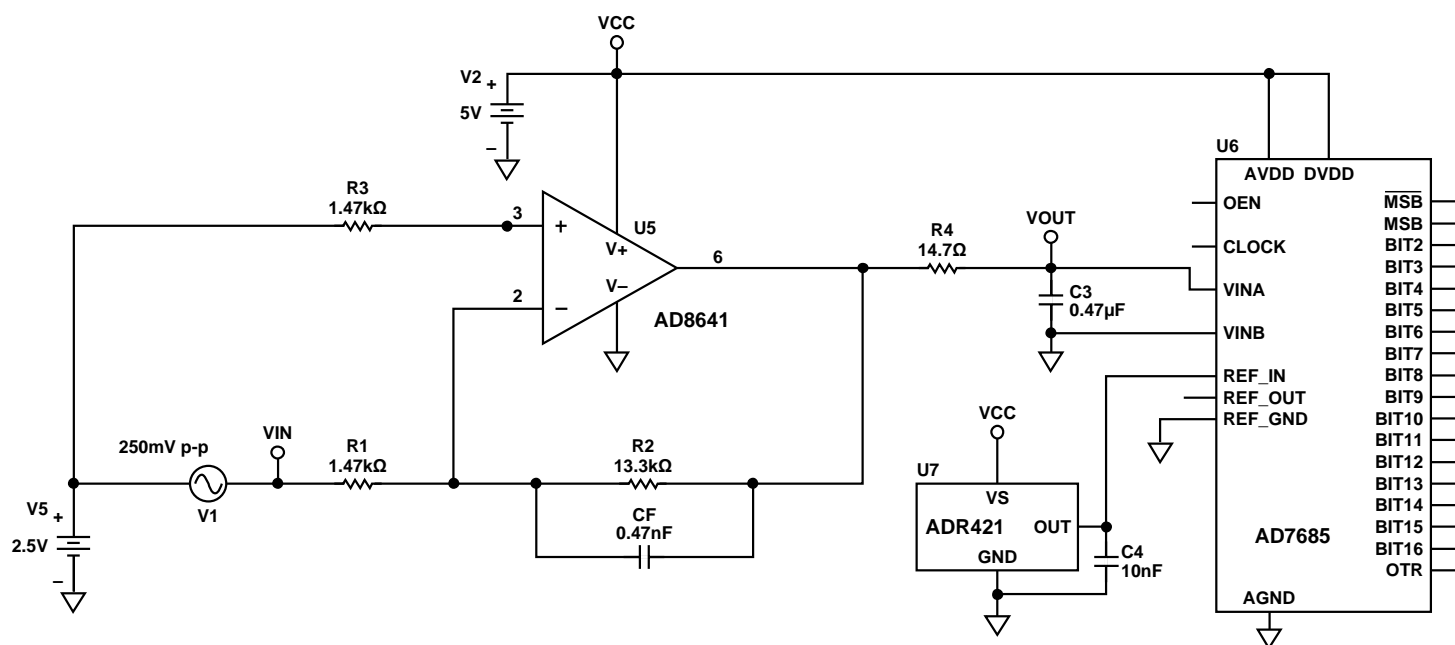

Figure 3. Complete solution.
**Table 1. Component values for complete solution shown in Figure 3**